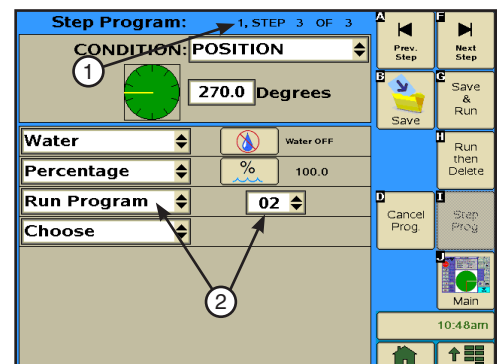

Figure 113-3 1. Program 1, Step 3 of 3
5. Select the Run **Program Number** field and choose the number of the program that you want to run. Refer to Figure 113-3.